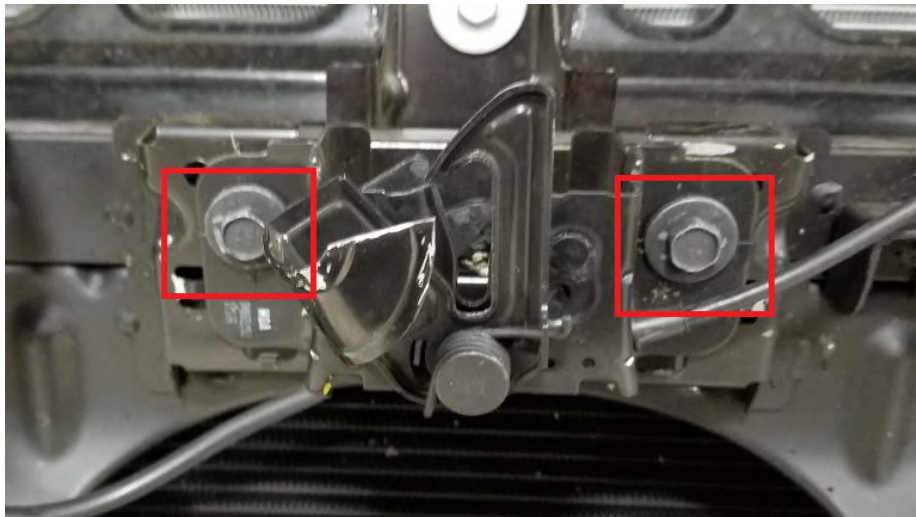
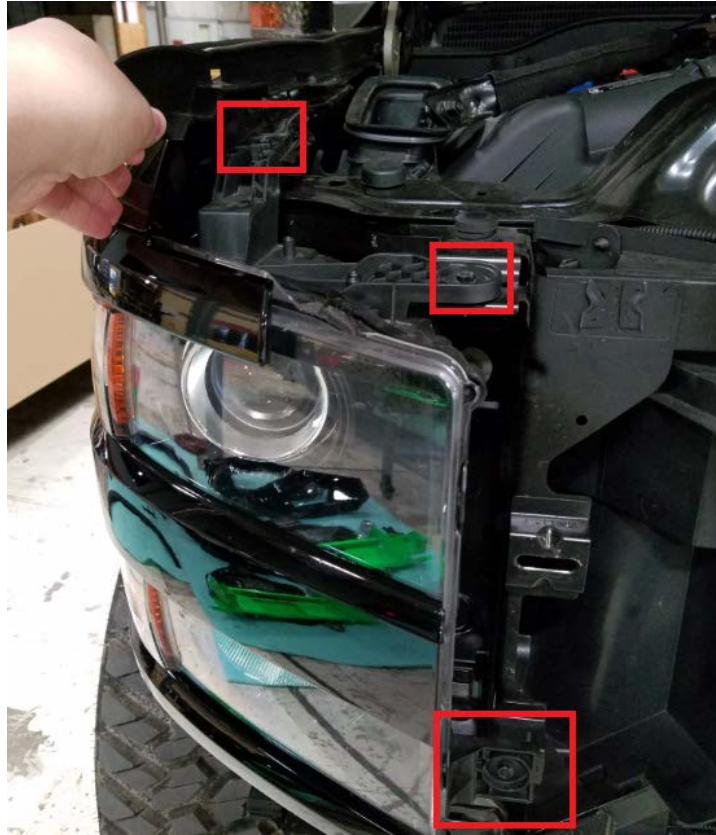

Figure 8
Figure 9
- J. Disconnect the hood release by removing 2 bolts (Ref Figure 8). Remove headlights by removing 4 bolts (Ref. Figure 9). One screw will be located under the headlight on the side of the vehicle. Disconnect the wiring harness from each light and lay them aside in a way that won't scratch the clear lens.**